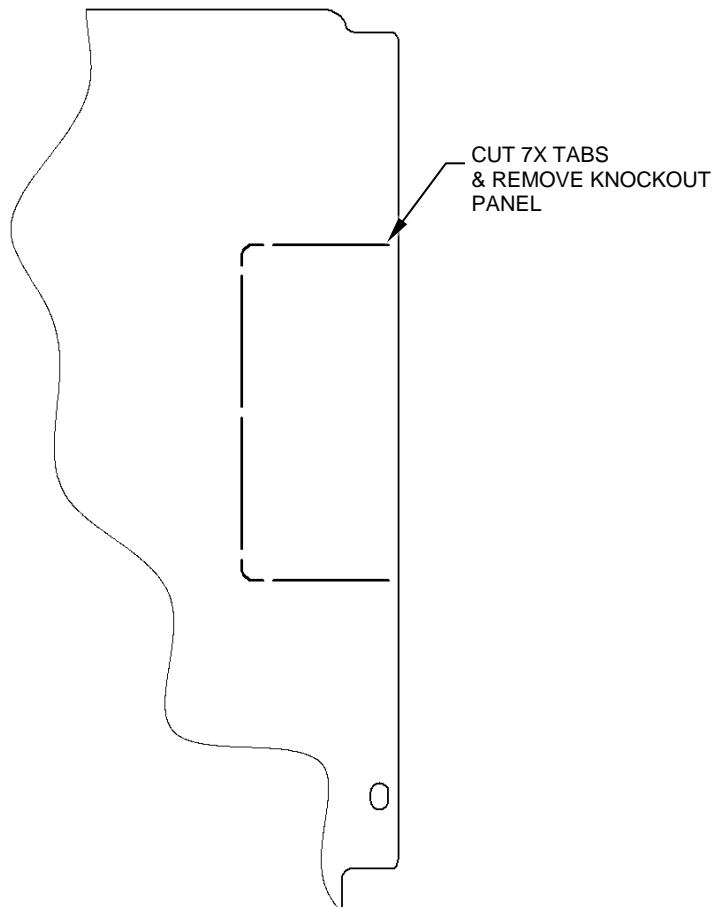

Figure 15
1. Prior to installation of the installation of the Panel, Assy, RHS, Item 2, cut the tabs retaining the knockout panel and remove. See Figure 15, 16 & 17.
2. Line the Sill, Detail, Item 4, up with its corresponding mounting holes on the Panel, Assy, RHS, Item 2. Trim the Sill, Detail, Item 4, .050" AFT of the edge of the knockout panel, and radius the new corners. See Figure 15, 16 & 17.